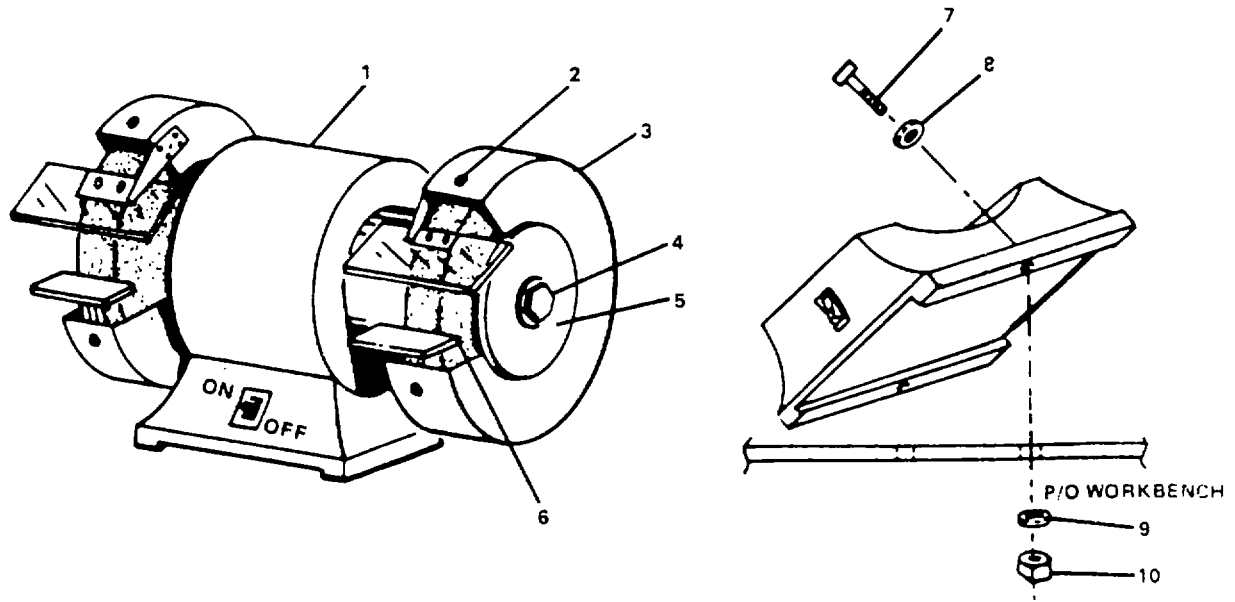

Figure 2-13. Replace/Repair Bench Grinder.
a. Open workbench drawer and locate head of mounting nut (10, Figure 2-13) on underside of work bench.
b. Hold nut with wrench and remove bolts (7) and flatwashers (8).
c. Remove nuts (10) and lockwashers (9).